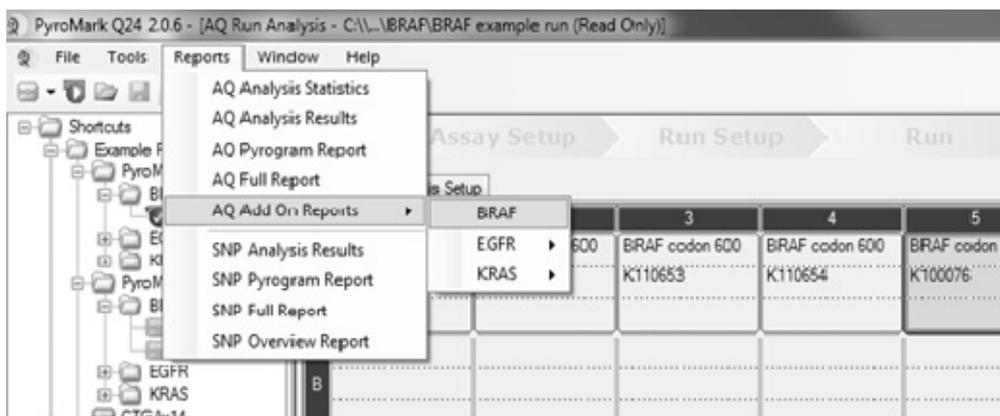

Figure 6. BRAF Plug-in Report menu.
5. To generate a report, select "AQ Add On Reports/BRAF" from "Reports" in the menu (see Figure 6).